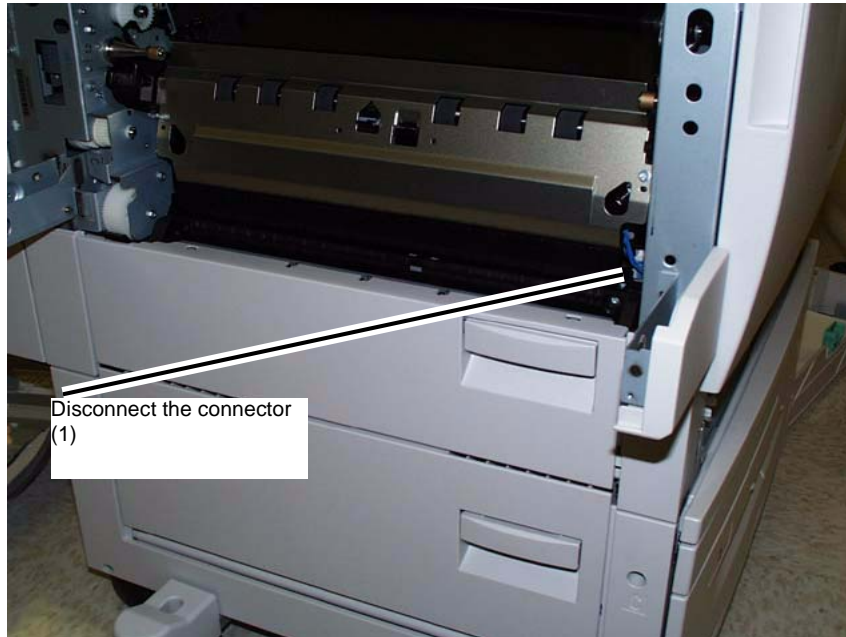

Figure 1 Disconnecting the connector (1)
3. Disconnect the connector. (Figure 1)